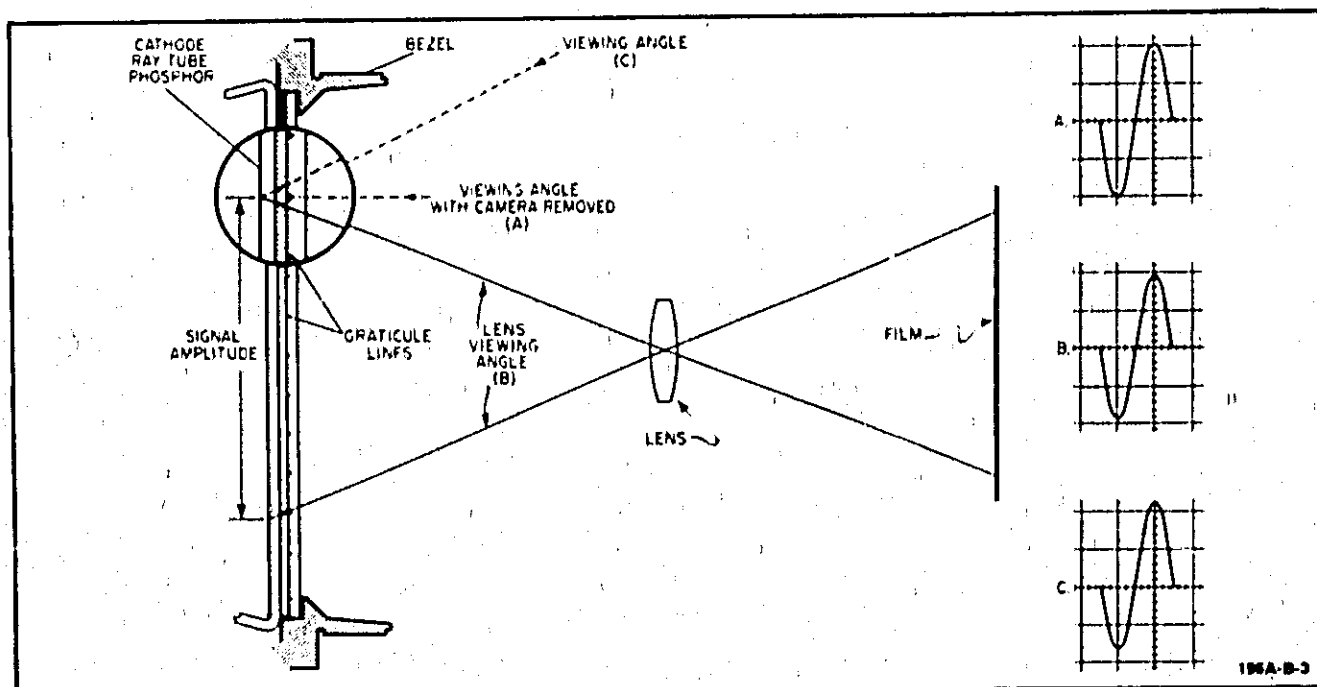

Figure 3-4. Parallax Effects.
3-37. PARALLAX. In the internal graticule CRT, the graticule lines are in the same plane as the phosphor. This arrangement eliminates any parallax between the graticule and the display. With external graticule CRT's, the graticule and phosphor are separated, and parallax enters into the measurement. Two parallax effects, as illustrated in figure 3-4, are present.
a. Parallax caused by the difference between lens viewing angle (B) in figure 3-4 and straight-on viewing angle (A).
b. Parallax caused by the difference between lens viewing angle (B) and eye viewing angle (C).